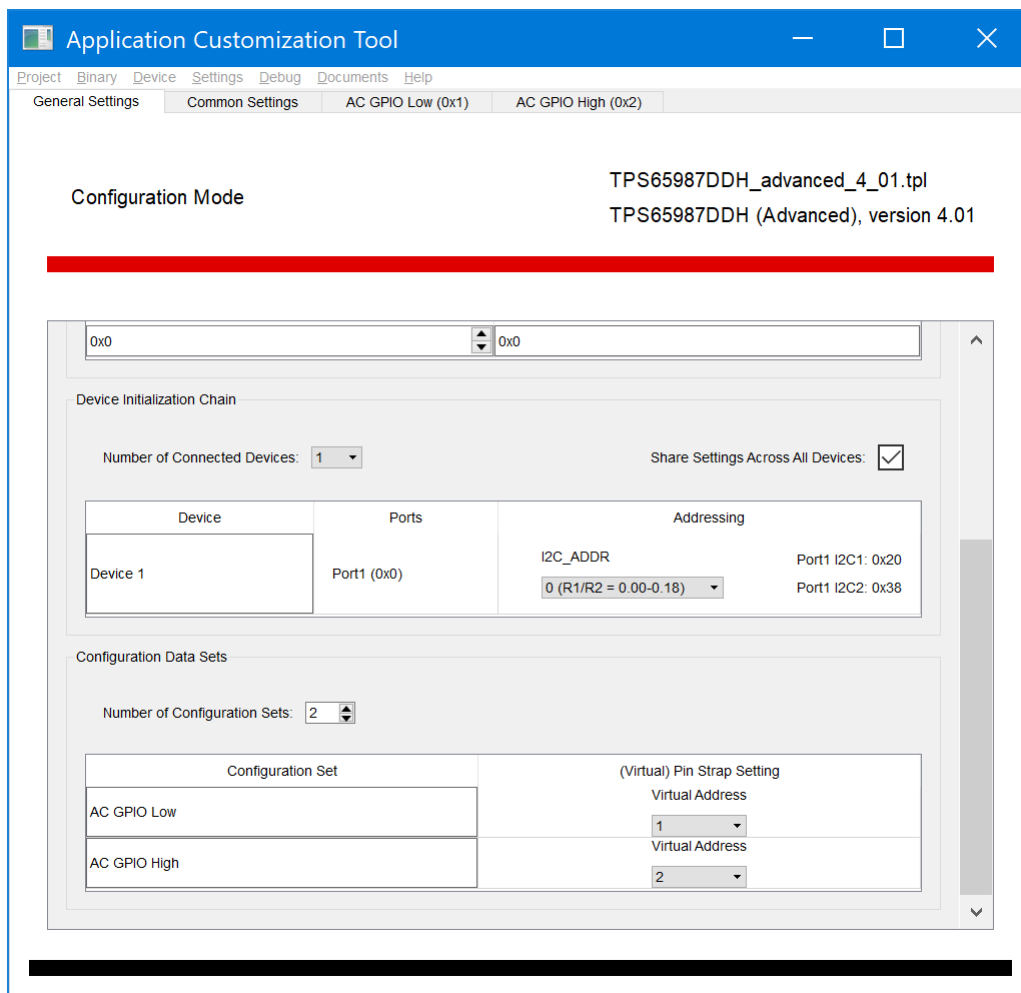

Figure 3. Number of Configuration Sets
2. Change *Number of Configuration Sets* in *General Settings* to 2, and then change *Virtual Device 1* to *AC GPIO Low*, and *Virtual Device 2* to *AC GPIO High* as shown in Figure 3.